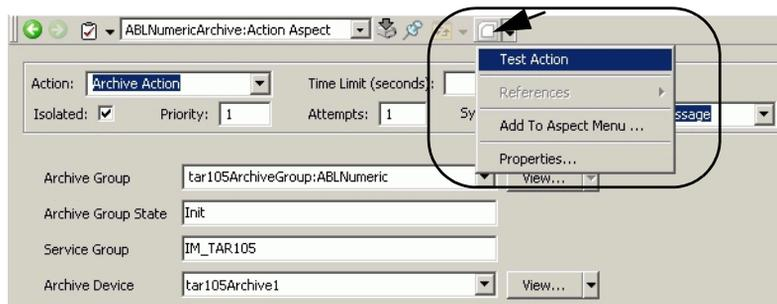

Figure 102. Test Action Function on the Action Aspect
- **Using the Test Action on the Action Aspect** (Figure 102) - This runs the report via the interactive or workplace user, instead of the Scheduler. This will help you determine whether or not the scheduler is having problems. If you see dialogs asking for userid/password or data source, this indicates the report will not run when executed by the Scheduler. Also check the ODBC source Localhost to make sure it was not configured with a userid (should be blank).